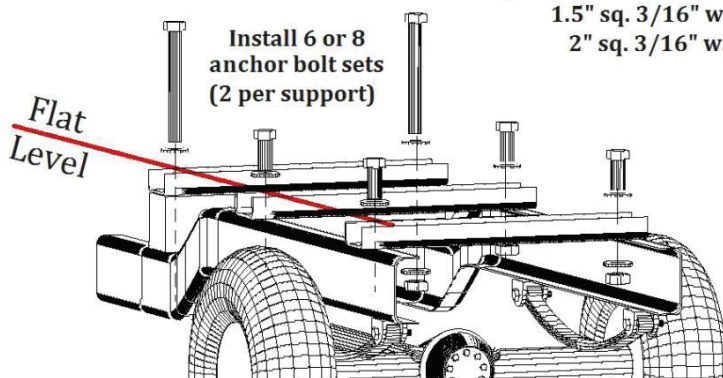

Figure 3
Channels must be installed to level the mounting surfaces on some truck frames. See Figure 3 for instructions.
3. Compare the two distances and if not close to each other, reset the runner channels to match the truck frame. (See Figure 3).